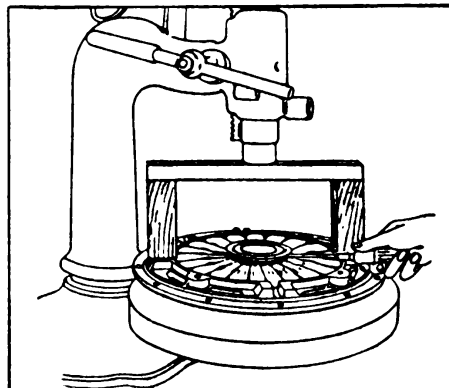

Figure 405
Remove fulcrum rings, (113), levers (124), and balls (112). Fig. 405.